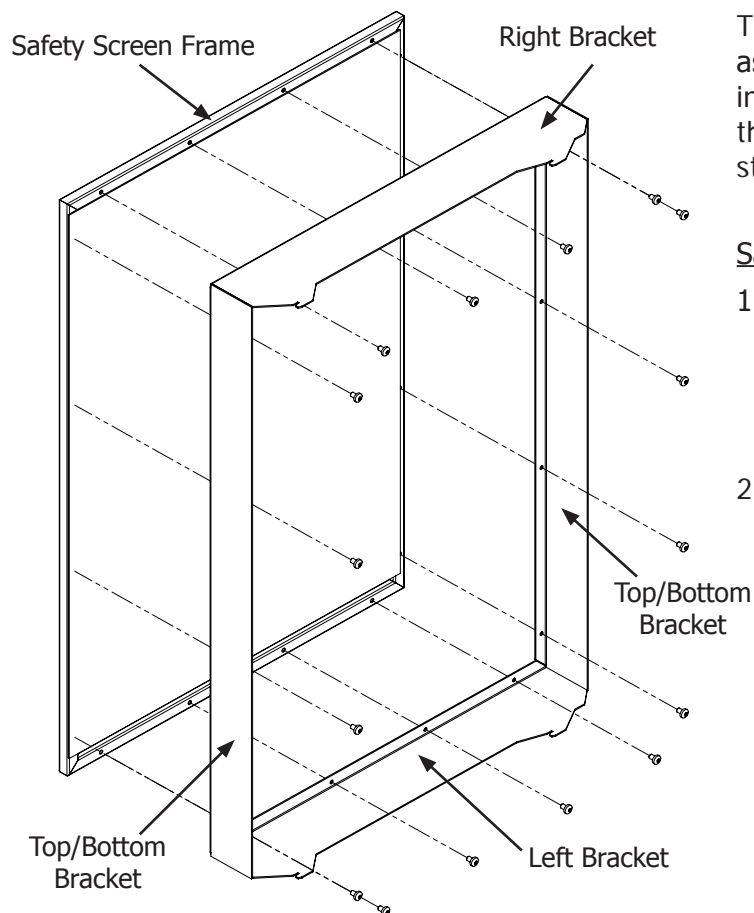

Figure 36: Installing Safety Screen Mounts.
1. Attach the left, right, top/bottom brackets onto the safety screen using a T20 screwdriver and the supplied sixteen (16) #8 T20 screws (see Figure 36). Do not over-tighten the screws, doing so could cause them to strip out of the screen frame.